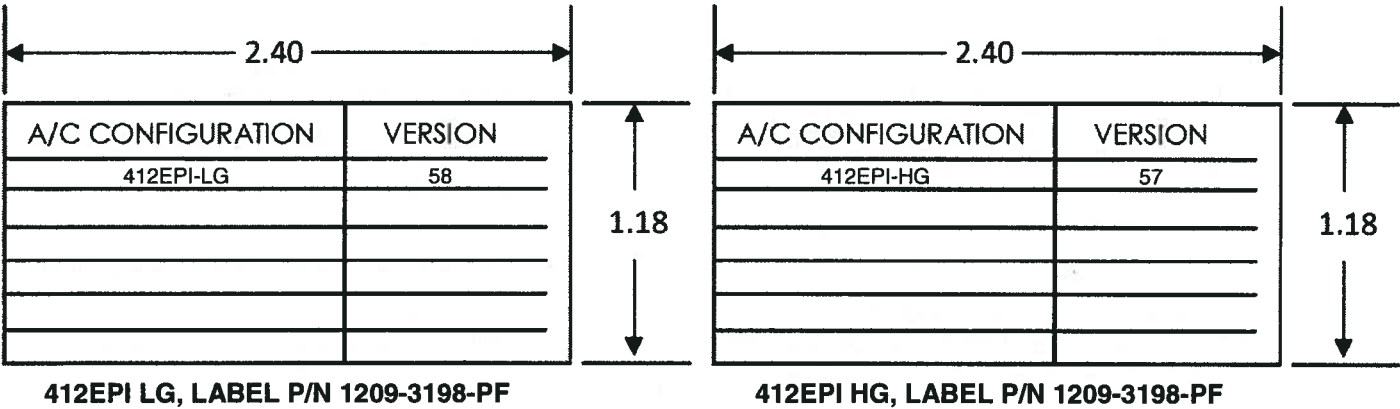

FIGURE 2. LABEL
- d. Dimensions: Per Figure 2
2. Verify information on existing Label (1209-3198-PF) matches as shown in Figure 2. Update label if necessary as shown in Figure 2 and per Paragraph 3.1.7 of 10123-0002-GP installation instructions.